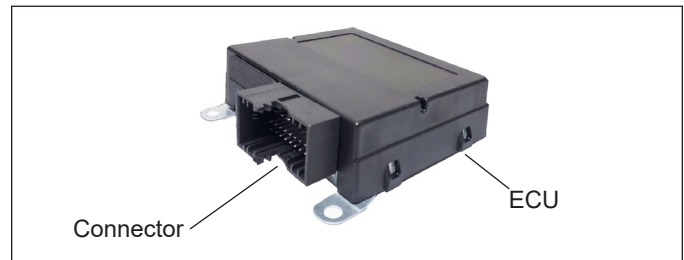

Figure 5 – Steering Assist Electronic Control Unit (ECU)
- The Electronic Control Unit (ECU) for the Steering Assist System is a standalone unit designed to work with J1939 Vehicle CAN and applicable system components. See Figure 5.